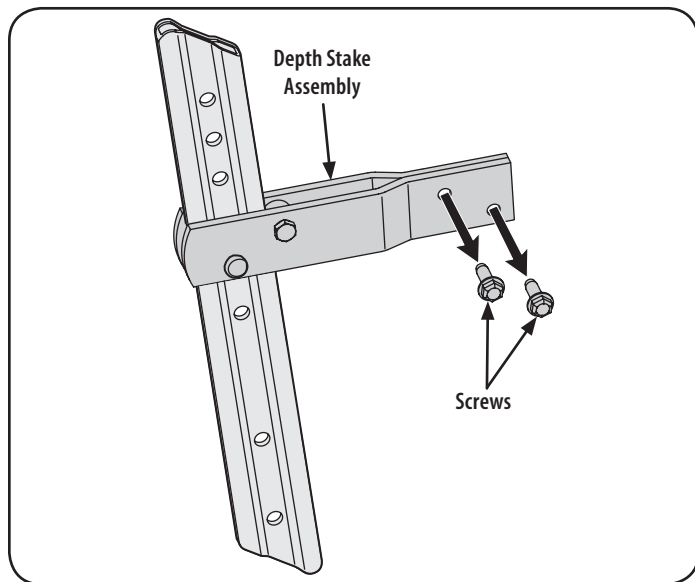

Figure 5
1. Remove the two screws from the depth stake assembly. See Figure 5.